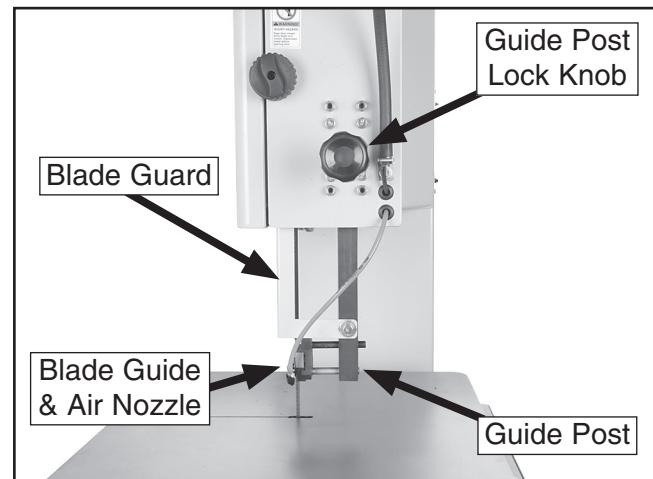

Figure 24. Model G8144Z/G8145Z guide post assembly.
2. Model G8144Z/G8145Z (Figure 24):